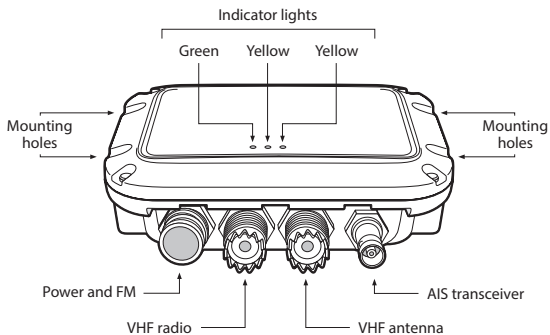

Figure 2 AIS antenna splitter overview.
- AIS Antenna Splitter Unit:** Figure 2 shows an overview of the AIS antenna splitter unit. The AIS antenna splitter has a number of indicators which provide information to the user about the status of the AIS antenna splitter. Please refer to section 4 for more details of the indicator functions. The AIS antenna splitter mounting holes are located as shown in Figure 2. Please refer to section 3.2 for details of how to mount the AIS antenna splitter.
The AIS antenna splitter has the following electrical connections as shown in Figure 2.